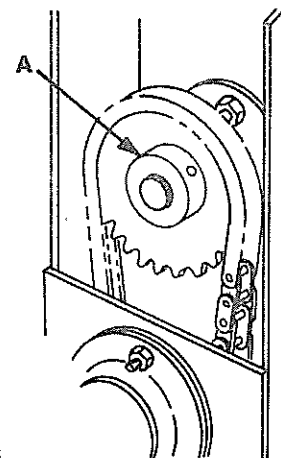

Figure 6-18
4. Locate master link (B, Figure 6-18) on chain and remove. Remove chain.
5. Loosen set screws in sprocket (A) and remove sprocket.